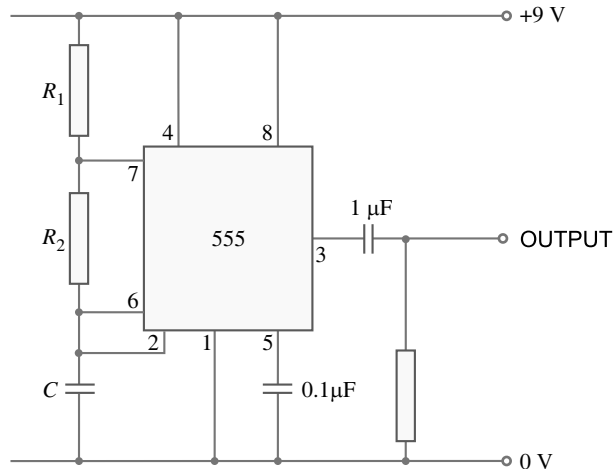

Fig. 21.20
(iv) **The 555 Timer as astable multivibrator.** Fig. 21.20 shows the 555 timer as an astable multivibrator. Note that the circuit contains *two resistors* ( $R_1$  and  $R_2$ ) and *one capacitor* ( $C$ ) and *does not have an input from any other circuit*. The lack of a triggering signal from an external source is the circuit recognition feature of the astable multivibrator.
**Example 21.4.** Determine the frequency of the circuit shown in Fig. 21.20. Given that  $R_1 = 3 \text{ k}\Omega$  ;  $R_2 = 2.7 \text{ k}\Omega$  and  $C = 0.033 \text{ }\mu\text{F}$ .